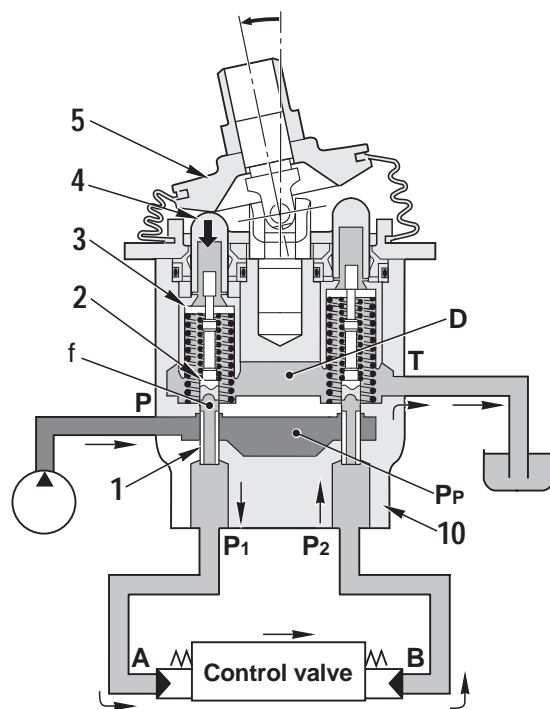

FIG. 2
Therefore, metering spring (2) is compressed proportionally to the amount of movement of the control lever, so the pressure at port **P1** also rises in proportion to the travel of the control lever. In this way, the control valve spool moves to a position where the pressure in chamber **A** (the same as pressure at port **P1**) and the force of the control valve spool return spring are balanced. (Fig. 2)